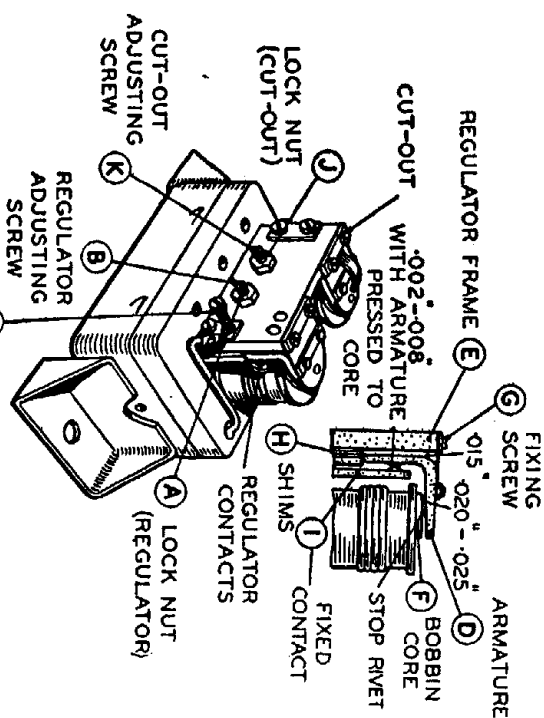

FIG. 55.—REGULATOR AND CUT-OUT ADJUSTMENT AND SETTING.
*A* (Fig. 55) on the adjusting screw *B*, turn this screw clockwise to increase the reading, or anti-clockwise to reduce the reading. The screw must be moved only a fraction of a turn when making this adjustment.
To function correctly, the cut-out should close when the dynamo voltage is between 6.2 and 6.6 volts. Check the voltage with the voltmeter connected between terminal *D* on the regulator and earth. If the reading is outside these figures adjust by releasing the lock-nut *Y* (Fig. 55) for the adjusting screw *K*. To raise the voltage turn the screw clockwise a fraction of a turn at a time or anti-clockwise to lower the voltage. Make the adjustment as the throttle is slowly opened until the cut-out contacts close. Tighten the lock-nut when the adjustment is completed.